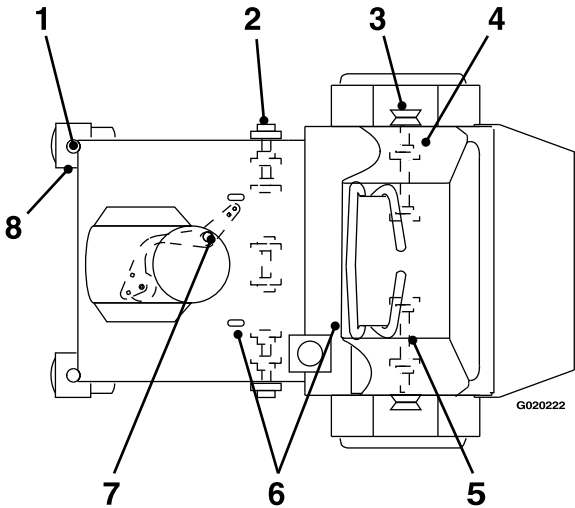

Figure 26
2. Wipe clean the grease fittings with a rag (Figure 26).
3. Connect a grease gun to the fitting (Figure 26).